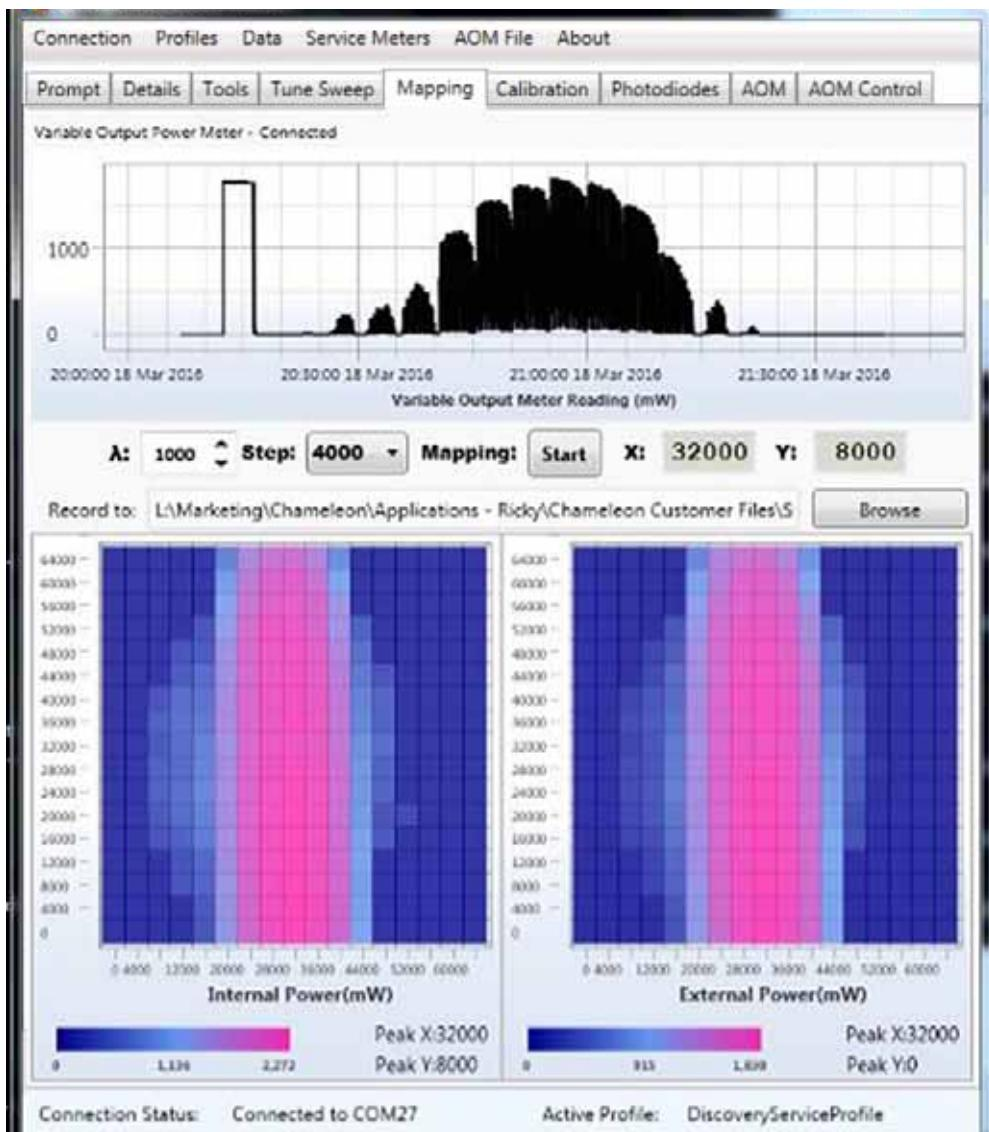

Figure 1.2-21. Mapping Menu
- d. Begin the procedure by clicking the Start button. See Figure 1.2-21.